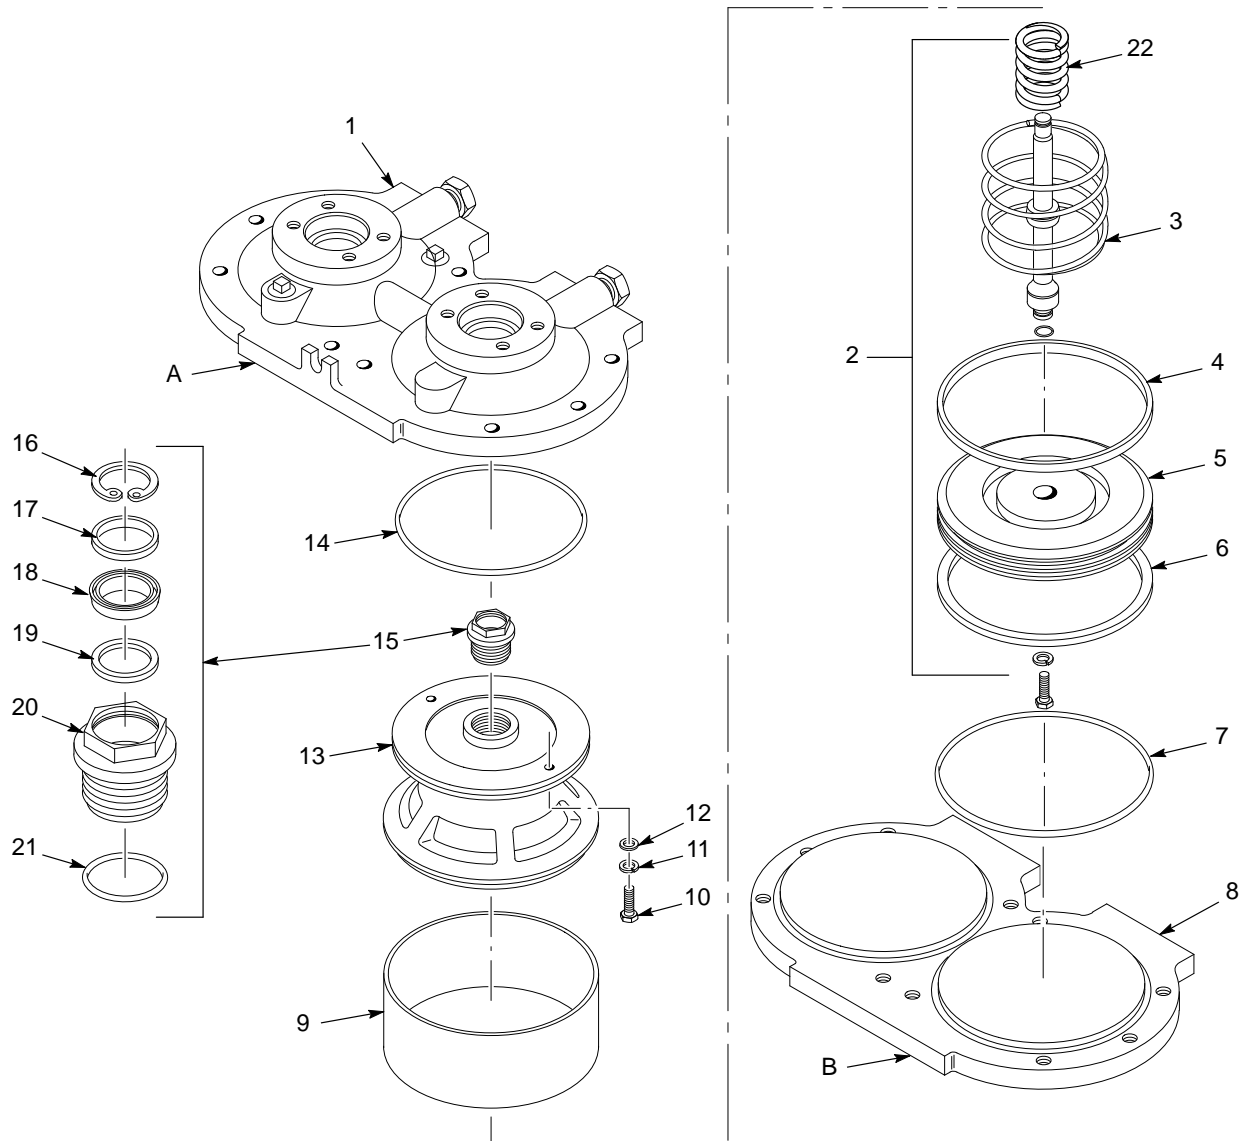

Figure 6-7 Air Motor Disassembly
7. See Figure 6-7. Remove the upper head (8), air motor springs (3), air cylinders (9), and piston assemblies (2).
8. Remove the screws (10), flat washers, and nylon washers (11, 12) that secure the lower heads (13) to the solvent chamber (1).
9. Remove the solvent seal packing glands (15) from the lower heads.
See Figure 6-7.